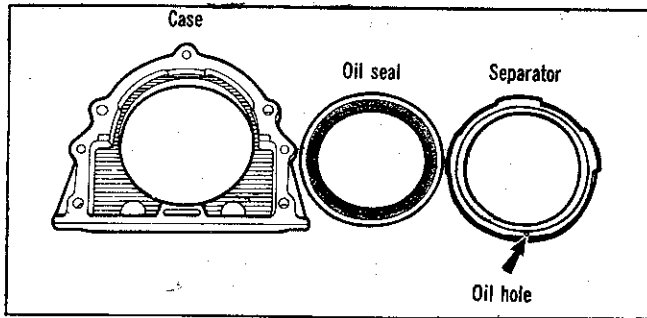

Fig. 60—Rear crankshaft seal assembly
- (11) Install the connecting rod caps in the correct order, with the cylinder number marks on the cap, aligned with the numbers on the connecting rod. Tighten the cap bolts to the specified torque.
- (12) Check the connecting rod big-end side clearance.
- (13) Install the crankshaft rear oil seal case. If the oil seal has been removed from the case, install a new oil seal to the case, ensuring it is properly seated into the case and that the oil hole in the separator faces the bottom of the case. Refer Fig. 60.
- (14) Install the flywheel (or torque converter drive plate) tightening the bolts to the specified torque. Bend the bolt locking tabs to securely hold the bolts (where fitted).